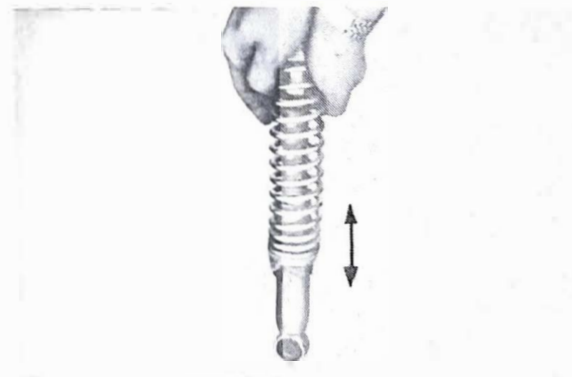

Fig. 5-6-2
- 2) Compress the shock by applying weight as shown in Fig. 5-6-2, and release it. If the shock quickly restores halfway and then slowly returns to the original position after it reaches 10 mm. (3/8 in.) before the original position, the rear shocks are in good condition. But if the cushion returns quickly to the original position, check the cushion for oil leakage, and replace the assembly if it leaks.